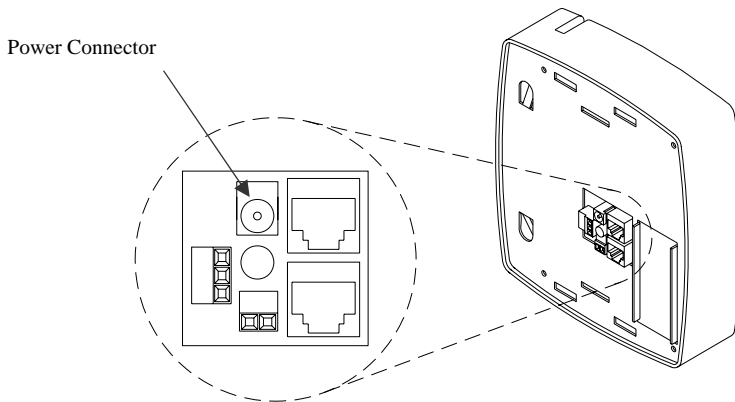

Figure 7
- ◆ With the terminal's 9VAC power supply plugged into an electrical outlet, plug the other end into the terminal's power connector; see the diagram below, Figure 7.